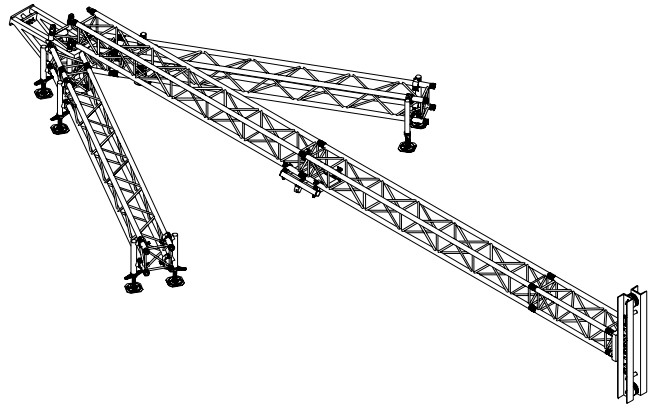

figure 8
**6** Mount the stabilizer attachment (RT-STAB-H30V-TOP) to the trusses. See figure 8.